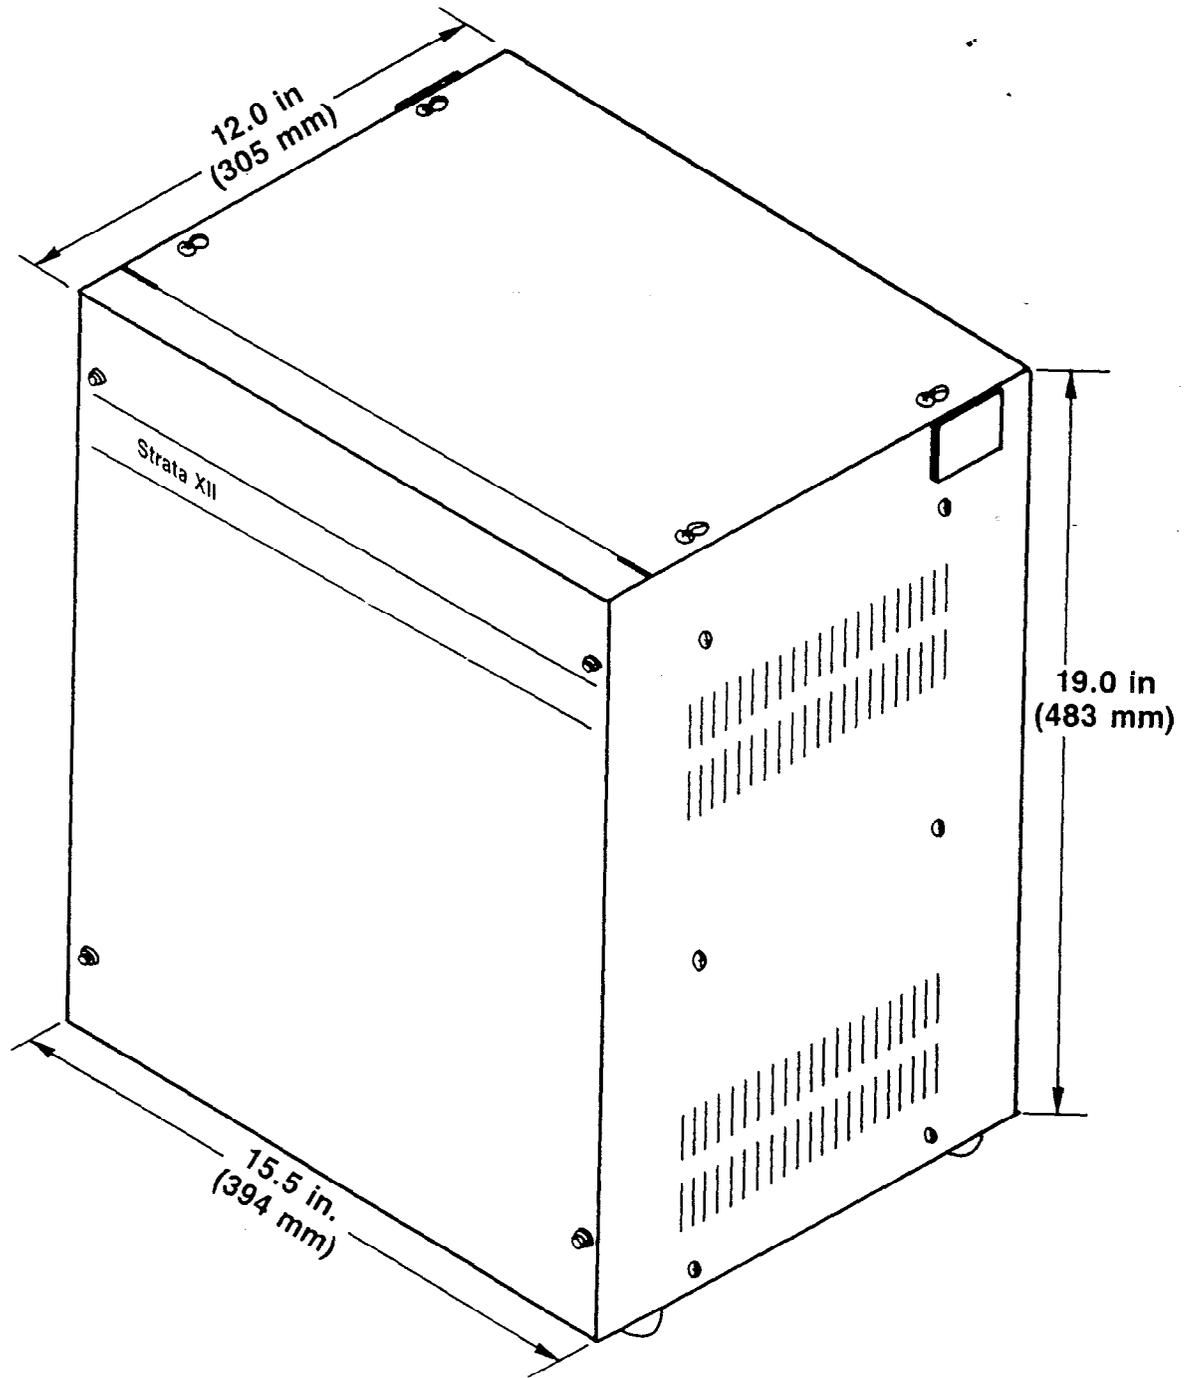

FIGURE 1 — STRATA XII MKSU (Dimensions)
02.01 Each of the STRATA MKSUs consist of a single metal cabinet (Figures 1 and 2) with the following dimensions: